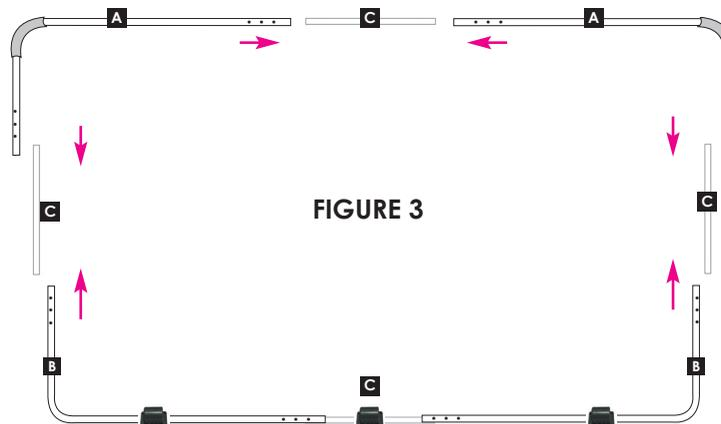

FIGURE 3
Next, insert another COUPLER (C) into the long side of the UPPER CORNER ARMS (A), then join the UPPER section to the lower section using the remaining two side COUPLERS (C). Figure 3. **Do not attach any of the tubing together with screws yet.**